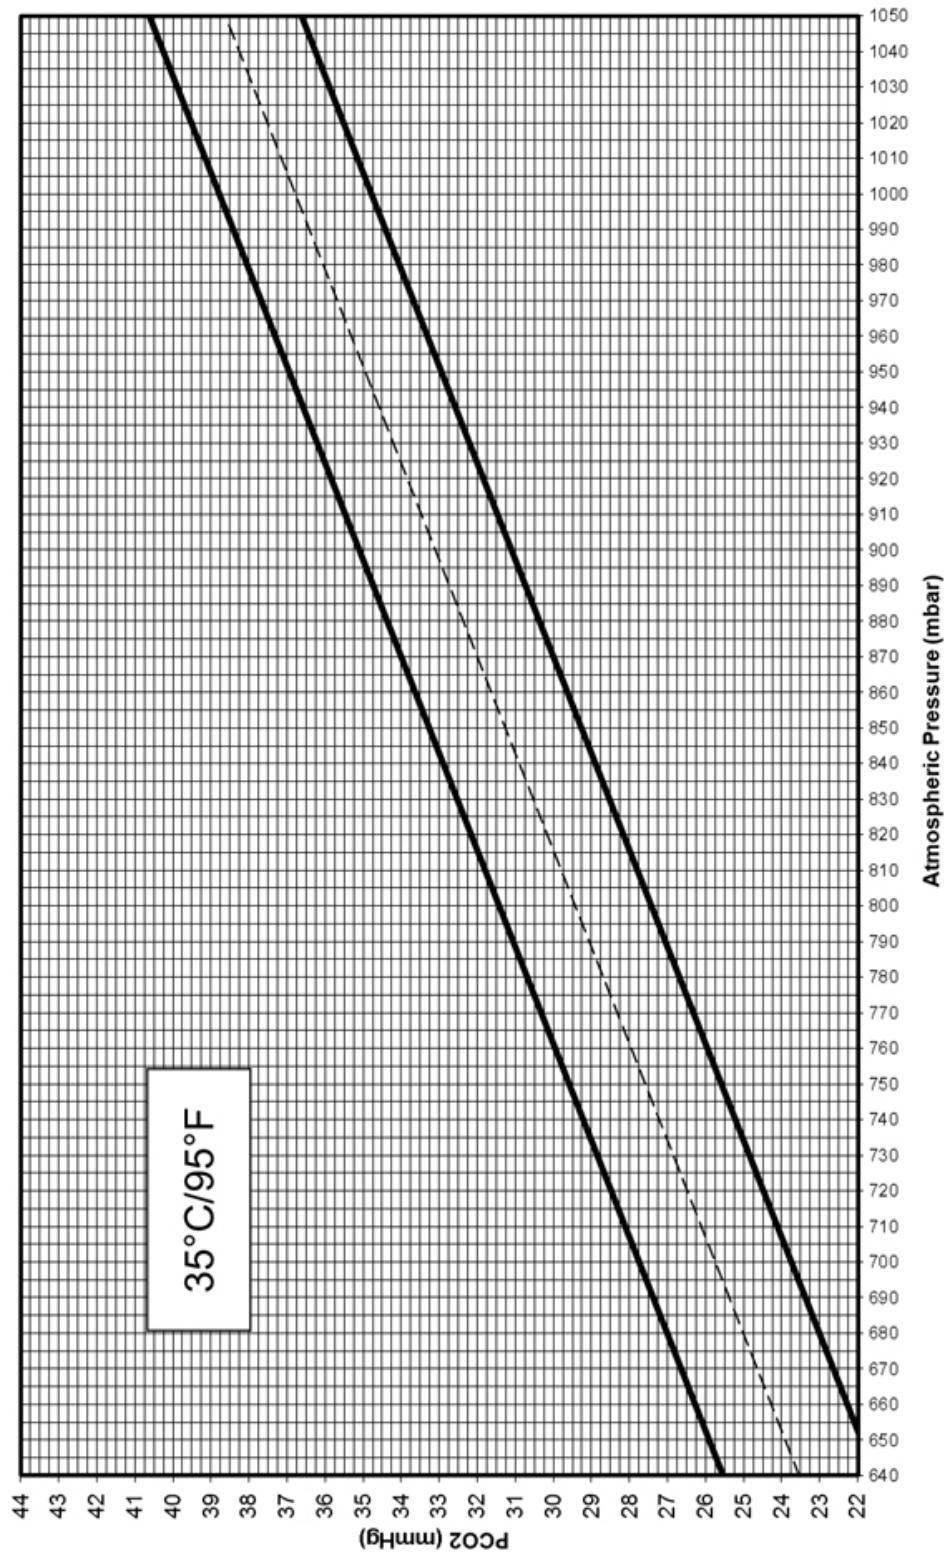

Fig. 193 Acceptable Range for PCO₂ at Atmospheric Pressure (32.5 to 37.5 °C)
- Ambient temperature 35 °C (32.5 to 37.5 °C): Fig 193